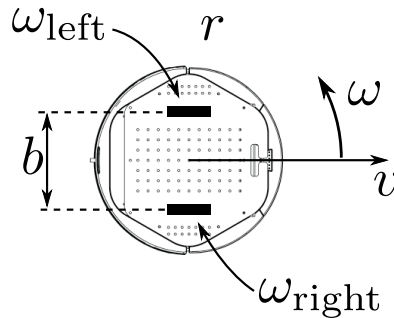

Figure 3: Differential drive model
**Q3** In practice it is often impossible to control a ground robot by sending  $(x, y, \theta)$  velocities. A classical way to control such a robot is to send a setpoint with a linear velocity  $v$  and an angular velocity  $\omega$ , expressed in the robot frame as shown in Fig. 3.
**Q5** When a robot is equipped with two actuated wheels, a simple model is the differential drive model, as shown in Fig. 3. Assuming the two wheels have a radius  $r$  and are separated with a distance  $b$ , then the kinematic model yields: